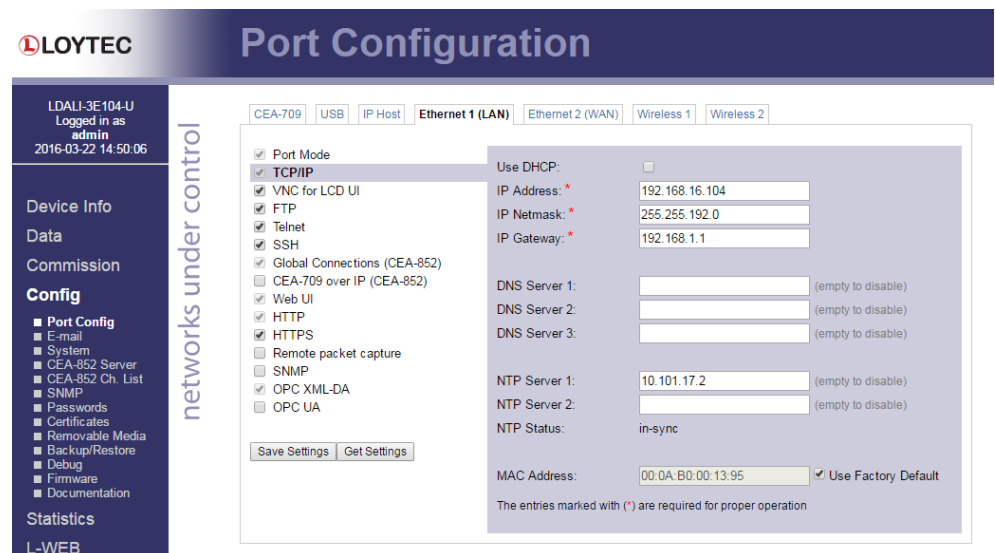

Figure 57: Enter IP-address and gateway
- The Config menu opens. Click on **Port Config** in the Config menu and select **Ethernet 1 (LAN)** tab. Enter the IP address, the IP netmask, and IP gateway for this device as shown in Figure 57 .